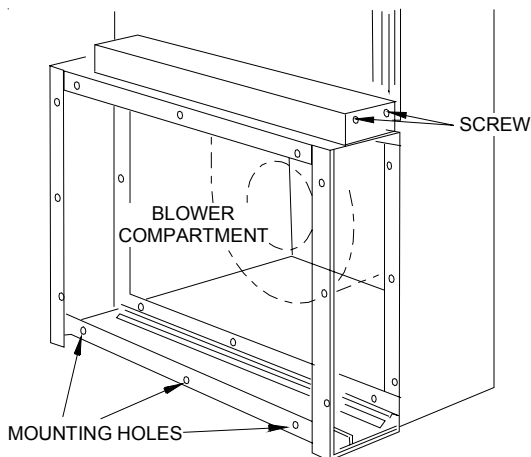

Figure 12
5. Mounting holes are provided for ductwork attachment (Figure 12). The 0.140" holes are sized for #8 sheet metal screws, or 1/8" rivets. If the adjoining ductwork is flanged, install the screws so that the screw heads are inside the cabinet. This will prevent damage to pre-filters and optional charcoal after-filter during removal and installation after cleaning
Only a trained, experienced serviceman should install this electronic air cleaner. The power tray assembly should be removed before installation. To remove the power tray assembly, remove the two (2) screws (see Figure 12) in the top front of the cabinet. Remember to keep this hardware for reinstallation of the power supply when the air cleaner installation is complete. A thorough checkout of the unit installation should be completed before unit operation.